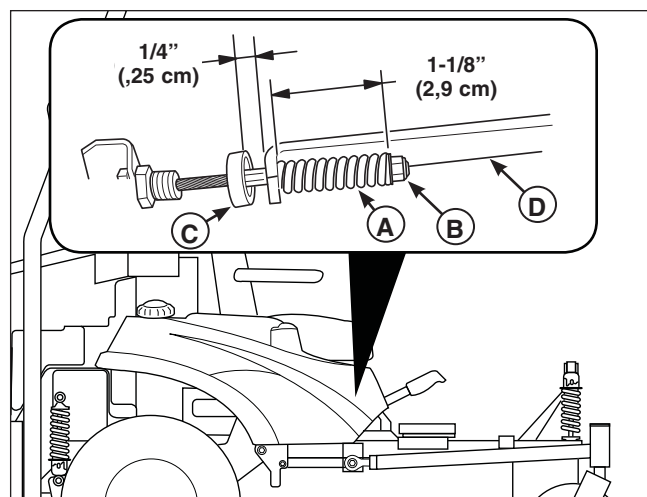

Figure 42. Parking Brake Adjustment
2. This unit has two brake springs (A, Figure 42). The brake springs are located under the front of the fuel tanks. Locate the brake springs. See Figure 42.